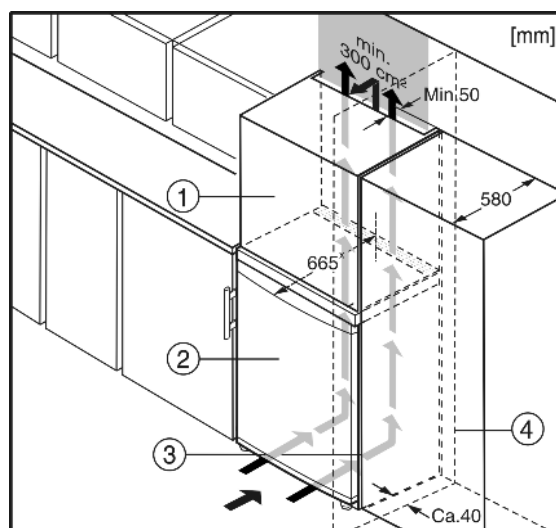

Fig. 5
The appliance can be inserted into a row of kitchen units. To match the appliance Fig. 5 (2) to the height of the row of units, a suitable stack cabinet Fig. 5 (1) can be fitted above the appliance.
When building in with kitchen units (max. depth 580 mm) the appliance can be positioned directly next to the refrigerator Fig. 5 (3). The appliance projects out from the kitchen unit front by 70 mm \* at the side and by 85 mm \* at the centre.
If the appliance is installed with the hinges next to a wall *Fig. 5 (4)*, the distance between appliance and wall has to be at least 40 mm. This corresponds to the projection of the handle when the door is open.